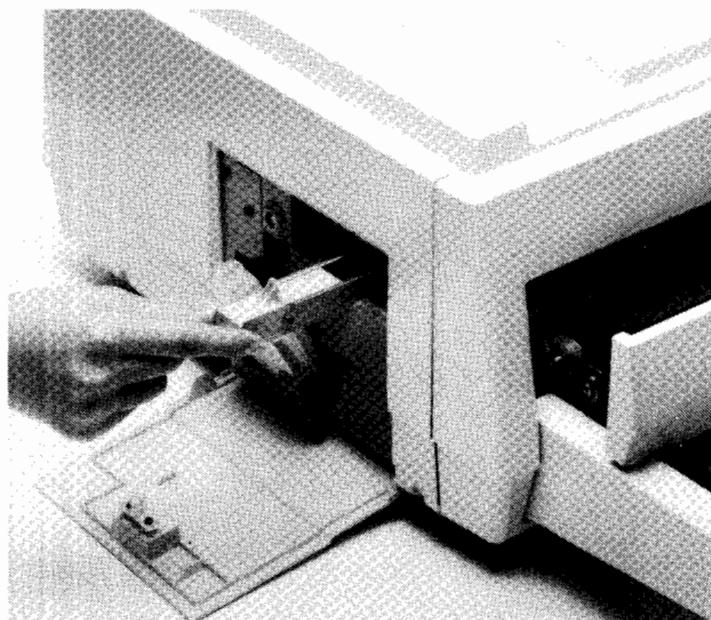

Figure 4-2. Removing Charge Corona
- b. Pull out the charge corona unit (figure 4-2). The charge corona unit is orange and has a number 1 printed on the handle.